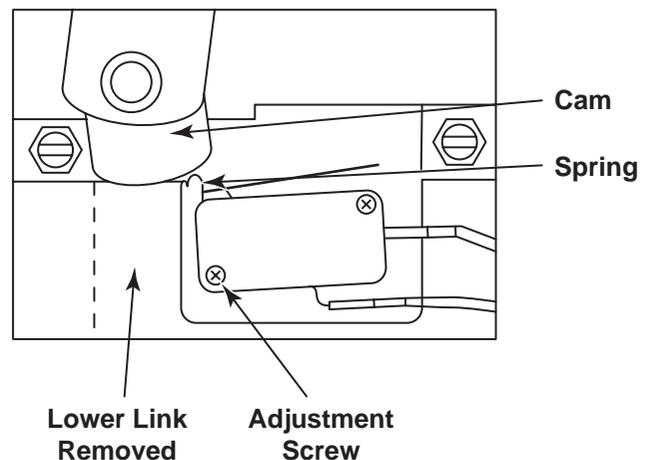

Figure 3-11. Stacker Switch Adjustment
4. Adjust the cam switch by loosening the adjustment screw and rotating the switch until the cam pushes the spring against the switch body as shown in *Figure 3-11*.